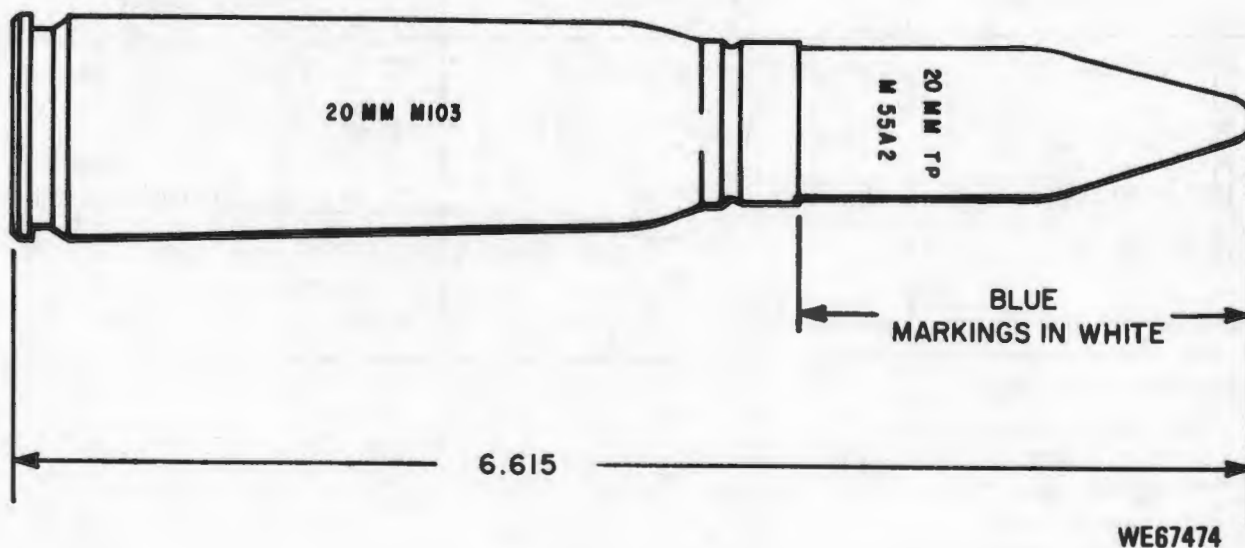

Figure 5-4. Marking of target practice (TP) M55A2 cartridge.
*d. Target Practice (TP), M55A2 (fig. 5-4).* This cartridge is for practice and proof-firings. The projectile is similar to the M56A3 projectile, but is hollow and contains no HEI charge or tracer.